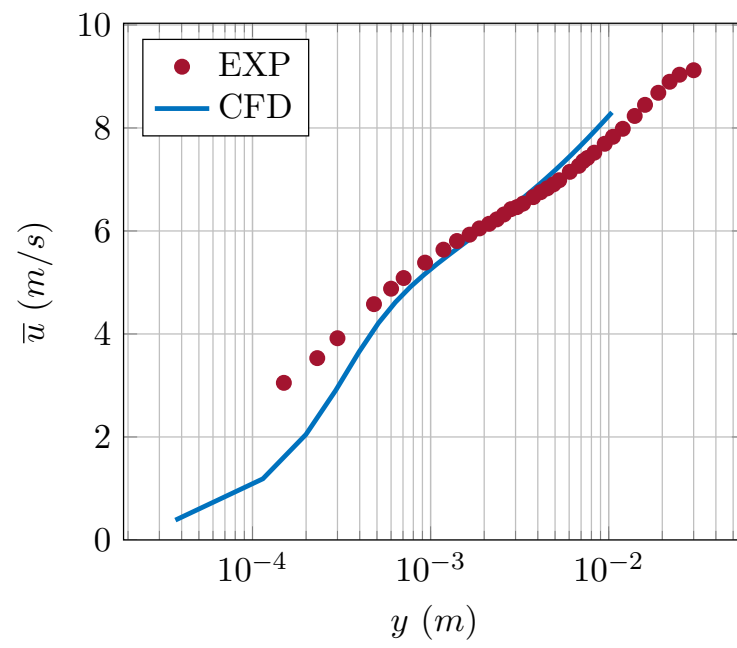

Figure 8.2: Turbulent boundary layer velocity profile – CFD results compared with measured data.
- a) Plot the turbulent data from the CFD simulation compared to the corresponding data provided in MTF053_CA2.ipynb (also in Appendix C). The plot should be somewhat similar to Figure 8.2.